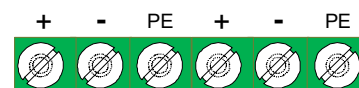

Figure 5-30: RS485 Data Cable Connector
Step 1. Extend the Data cable connected to Connection Box #1, out to the **Control Module** and connect it to the following terminals on the RS485 port of the Control Module (**Figure 5-30**).